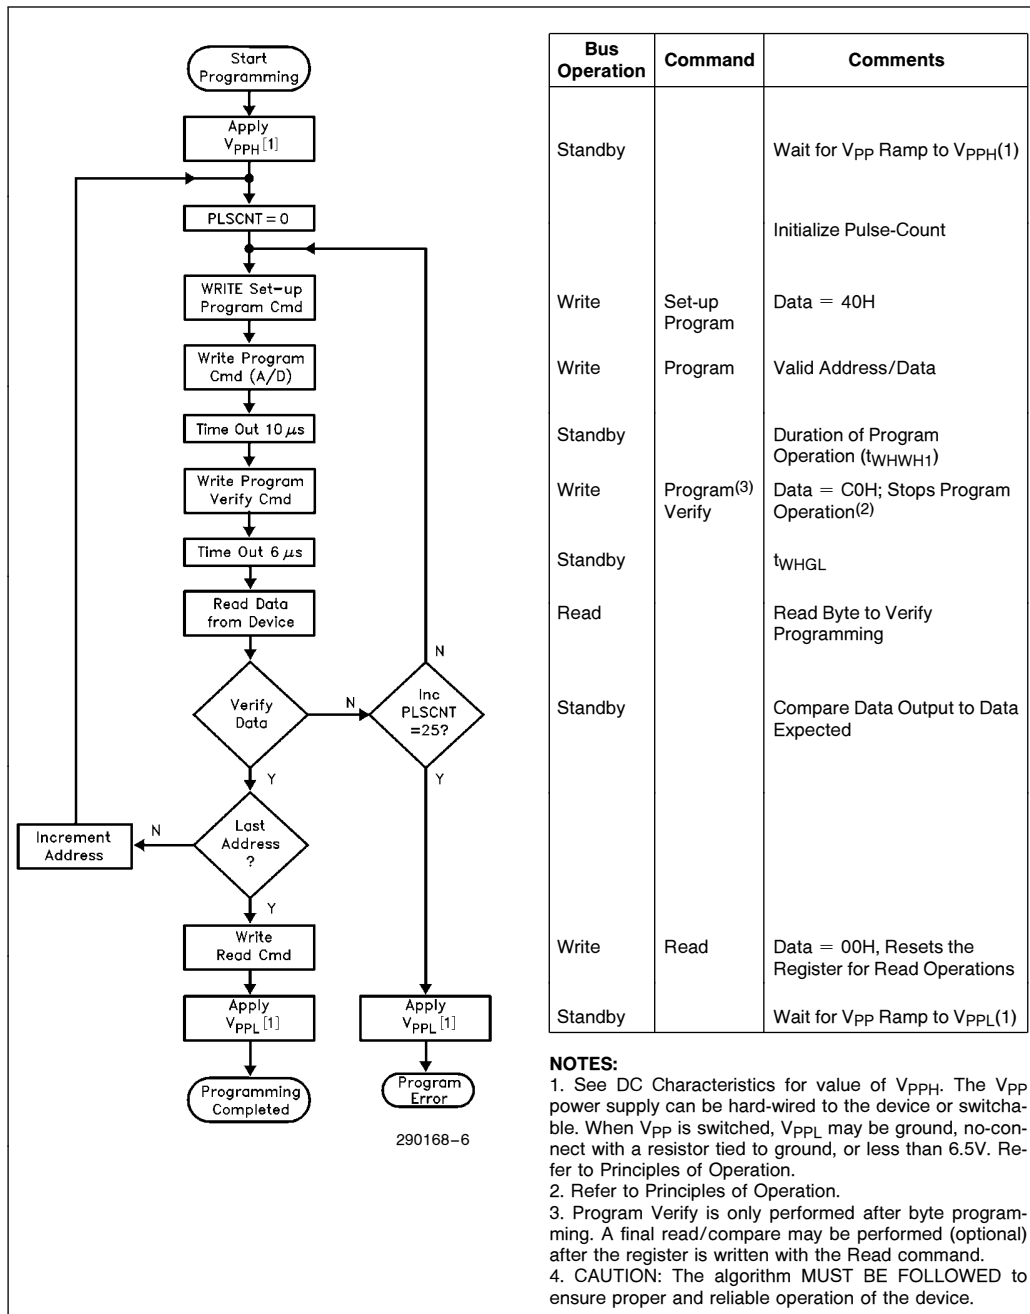

Figure 5. 28F256A Quick-Pulse Programming Algorithm
6. Figure 5 illustrates the Quick-Pulse Programming Algorithm.
The 28F256A applies an internally-generated margin voltage to the byte. A microprocessor read cycle outputs the data. A successful comparison between the programmed byte and true data means that the byte is successfully programmed. Programming then proceeds to the next desired byte location. Figure 5, the 28F256A Quick-Pulse Programming Algorithm, illustrates how commands are combined with bus operations to perform byte programming. Refer to A.C. Programming Characteristics and Waveforms for specific timing parameters.
The Quick-Pulse Programming algorithm uses programming operations of 10  $\mu$ s duration. Each operation is followed by a byte verification to determine when the addressed byte has been successfully programmed. The algorithm allows for up to 25 programming operations per byte, although most bytes verify on the first or second operation. The entire sequence of programming and byte verification is performed with  $V_{PP}$  at high voltage. Figure 5 illustrates the Quick-Pulse Programming algorithm.